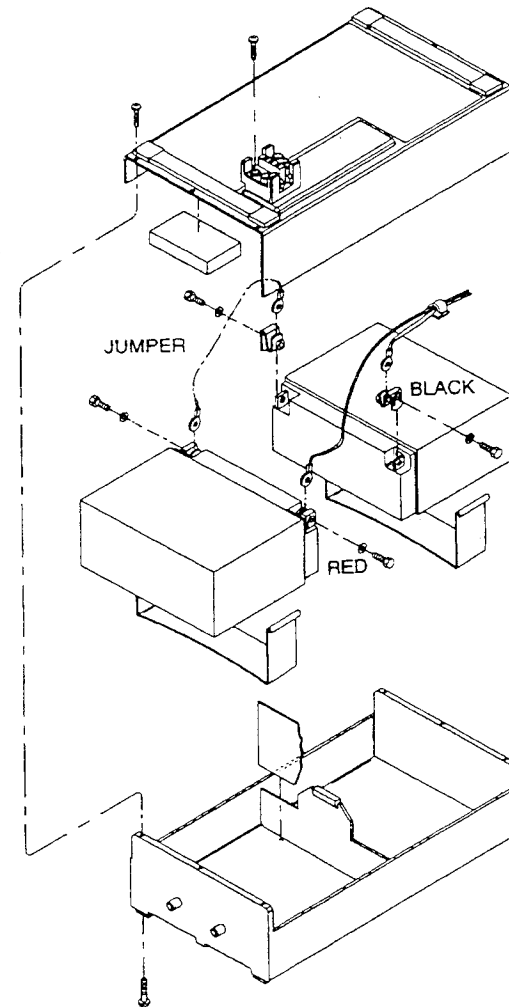

Figure 8-5
3. Refer to figure 8-5. Remove the top cover. Remove the jumper and the cable assembly from the battery terminals being careful not to contact adjacent terminals.